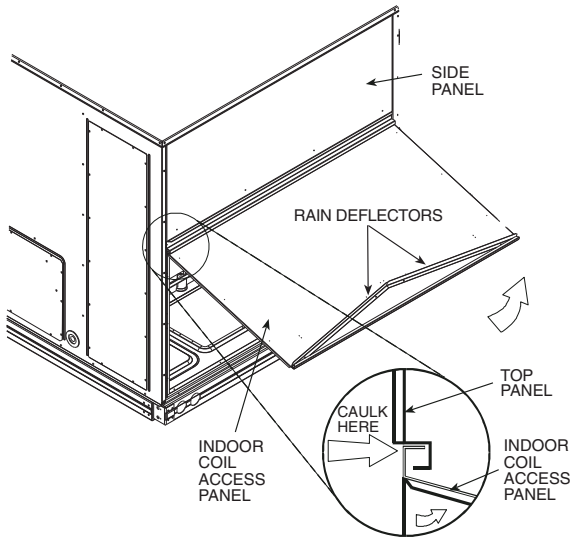

Fig. 20 — Indoor Coil Access Panel Relocation (Size 16 Shown)
1. The indoor coil access panel will be used as the top of the hood. If the panel is still attached to the unit, remove the screws along the sides and bottom of the panels. See Fig. 20.